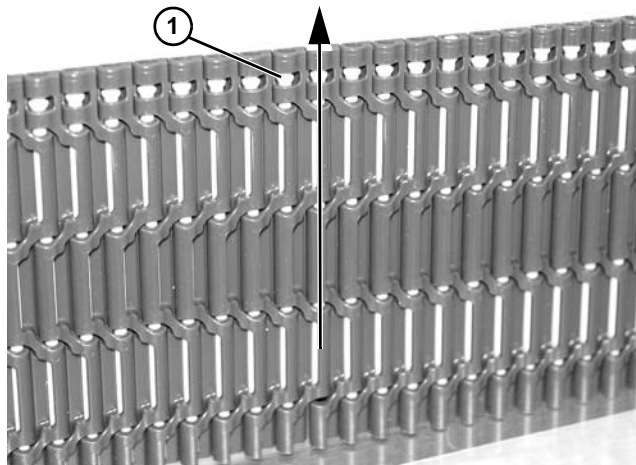

Figure 162
Note that head of pin (**Figure 162, item 1**) should be removed in direction shown.